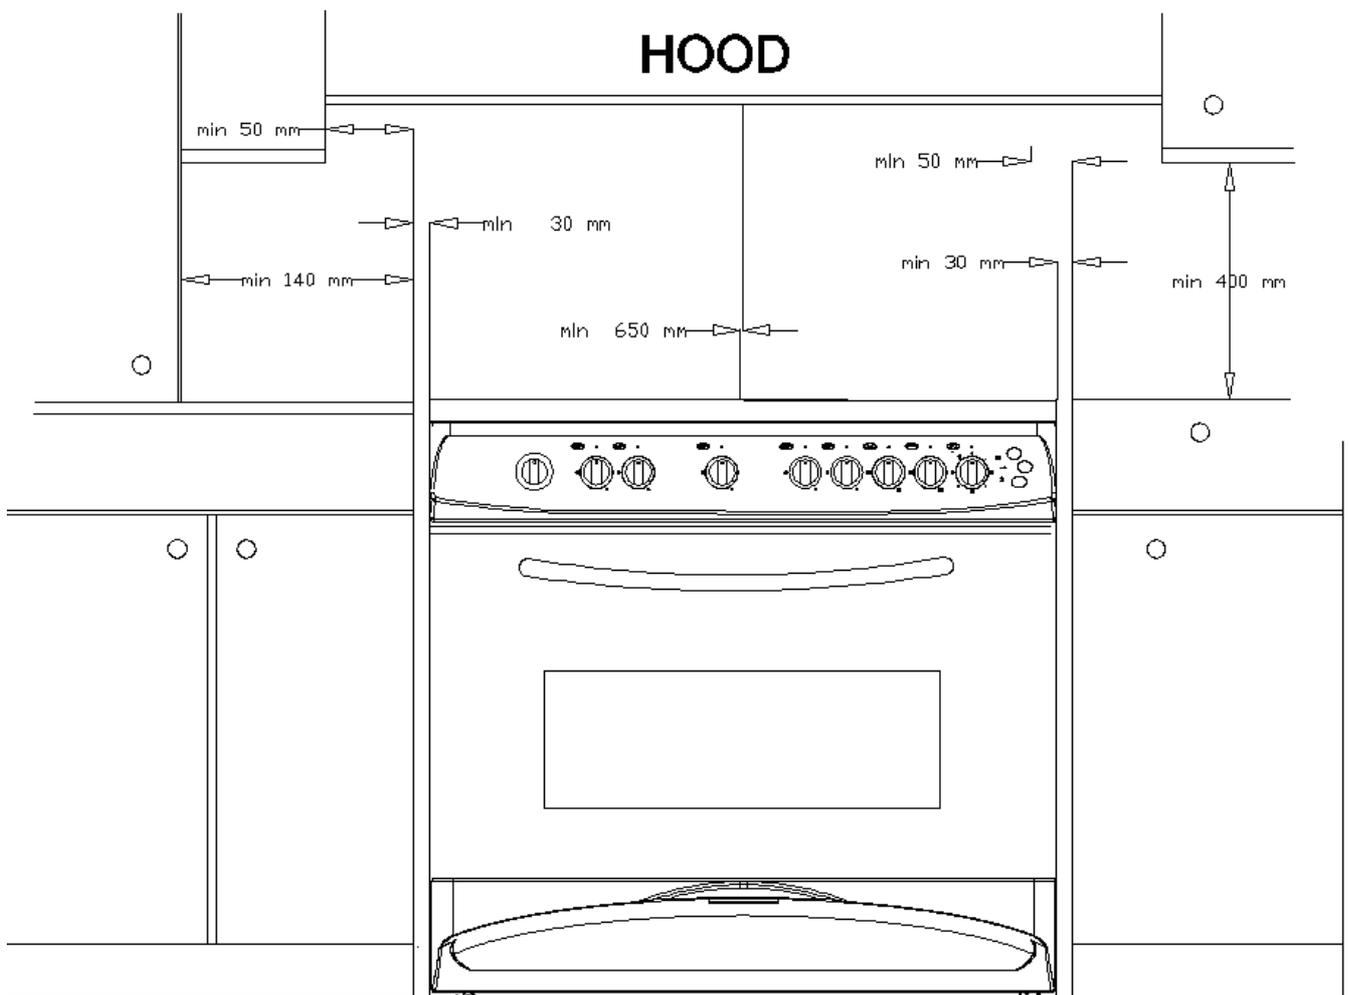

Fig. 1
- ❖ This product is intended for cooking of food and must not be used for other purposes (fig 1.)